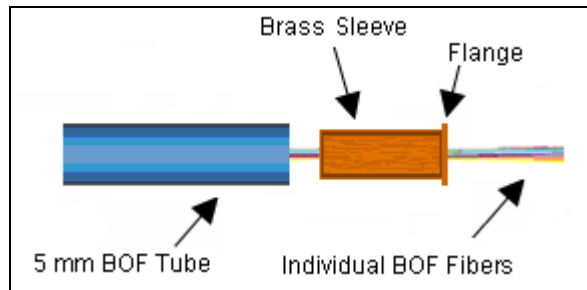

FIGURE 2M1-2. Inserting BOF fibers through brass sleeve.
Step 8 - Feed the BOF fibers into the non-flange side of the brass sleeve and slide the brass sleeve down the BOF fibers towards the open end of the 5mm BOF tube (see FIGURE 2M1-2).
Step 9 - Insert the brass sleeve into the 5mm BOF tube. The duct coupling tool can be used to help insert the brass sleeve by aligning the inset side of the 5mm end of the tool over the sleeve flange. Applying equal pressure on the top side flange, press the sleeve into the tubing until the flange is flush with the BOF tube (see FIGURE 2M1-3 for the 5mm BOF tube with brass sleeve with BOF fibers and FIGURE 2M1-4 for 5mm BOF tube with brass sleeve without BOF fibers).